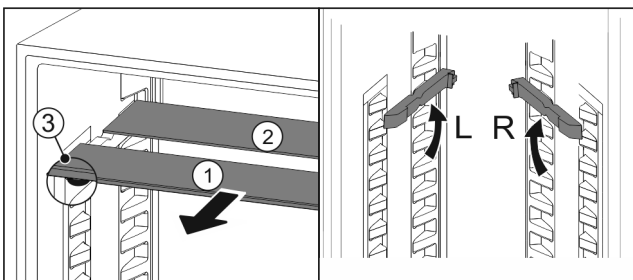

Fig. 98
- ▶ Pull the glass panels out Fig. 98 (1) from the front, one at a time.
- ▷ The glass panel Fig. 98 (1) with the trim strip is at the front.
- ▷ The stops Fig. 98 (3) point downward.